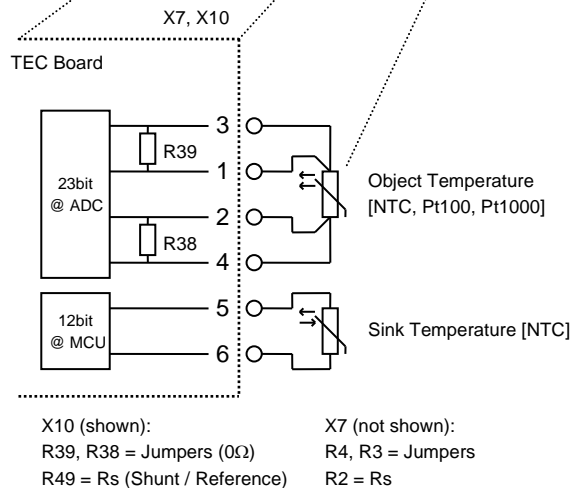

Figure 2. Schematic top view of a TEC-1122-based dual-channel TEC controller.
- Locate the four mounting holes M1-M4 (TEC-1089-based: see Figure 1, TEC-1122-based: see Figure 2)
Either the green or the red status LED (see Figure 1 or Figure 2) should be blinking / lit